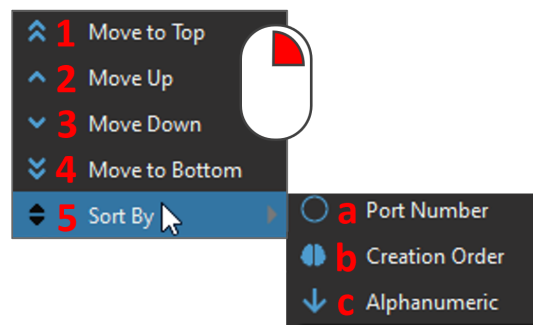

Figure 11.13: Graph View, Arrange graph order
The order of the individual graph can be modified (within the channel types) by *right clicking* one of the graphs in the **Graph View**. This opens a small pop-up menu (Fig. 11.13), that includes the following options:
1. The **Move to Top** option (Fig. 11.13, 1) sets the selected graph as the first one of its channel type within **Graph View**.
2. The **Move Up** option (Fig. 11.13, 2) shifts the selected graph towards the top by one graph, but only within its channel type.
3. The **Move Down** option (Fig. 11.13, 3) shifts the selected graph towards the bottom by one graph, but only within its channel type.
4. The **Move to Bottom** option (Fig. 11.13, 4) sets the selected graph as the last one of its channel type within **Graph View**.
5. The **Sort By** option (Fig. 11.13, 5) rearranges the graph order based on:
- a) The **Port Number** option (Fig. 11.13, a), set a chronological order within each channel type (e.g AIN01, AIN02, AIN03, etc.).
- b) The **Creation Order** option (Fig. 11.13, b), such that the first created channel will be on top and the last created channel will be on the bottom.
- c) The **Alphanumeric** option (Fig. 11.13, c), such that the **UserName** of each channel will be ordered alphanumerically.